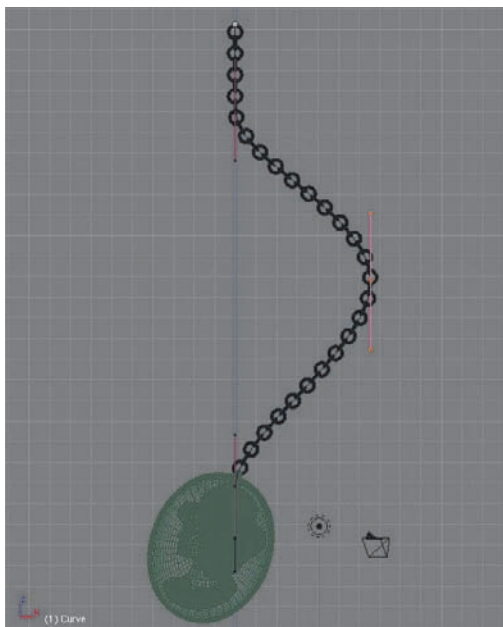
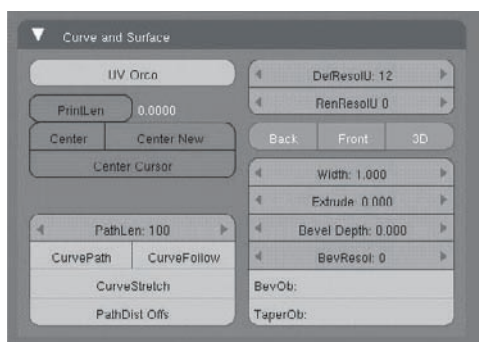

Figure 3.36 Posing the chain
Figure 3.37 Curve And Surface tab
7. You should now be able to pose the chain and pendant by moving control points of the curve, as shown in Figure 3.36. To return to the original position, press Ctrl+Z to undo the posing. Unlike the case of an armature, there is no concept of a “rest pose” for a curve. When you pose the curve like this, you will notice something else also: The curve deforms in only two dimensions. That is because you have not specified that the curve should be calculated in 3D. Change this by tabbing into Object mode and clicking 3D on the Curve And Surface tab, as shown in Figure 3.37.